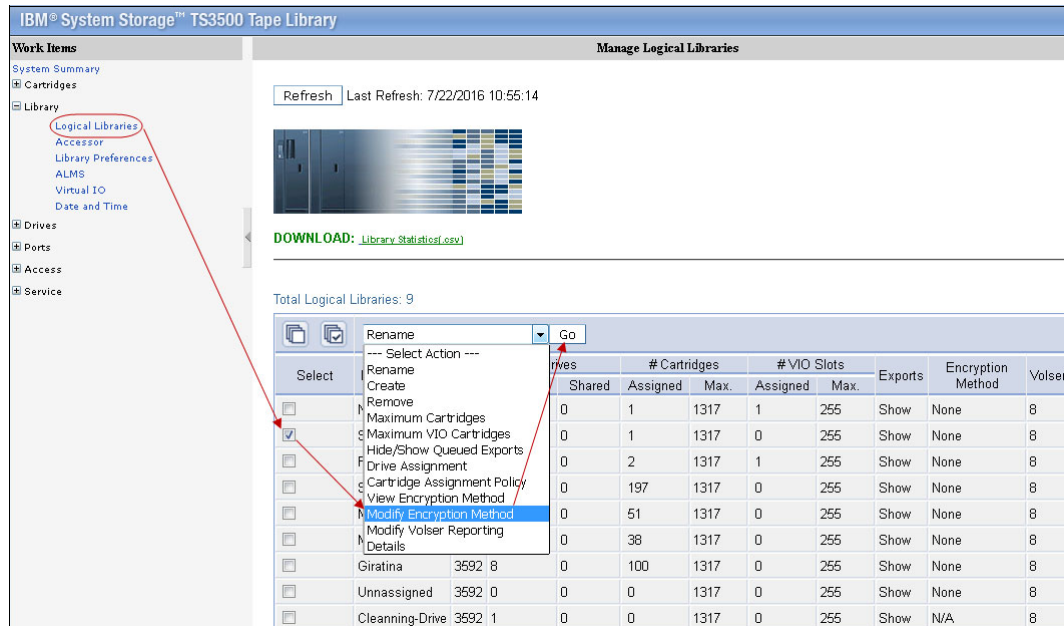

Figure 11-11 Select the encryption method
- In the TS3500 MI, click **Library** → **Logical Libraries**, select the logical library with which you are working, select **Modify Encryption Method**, and then click **Go** (see Figure 11-11).